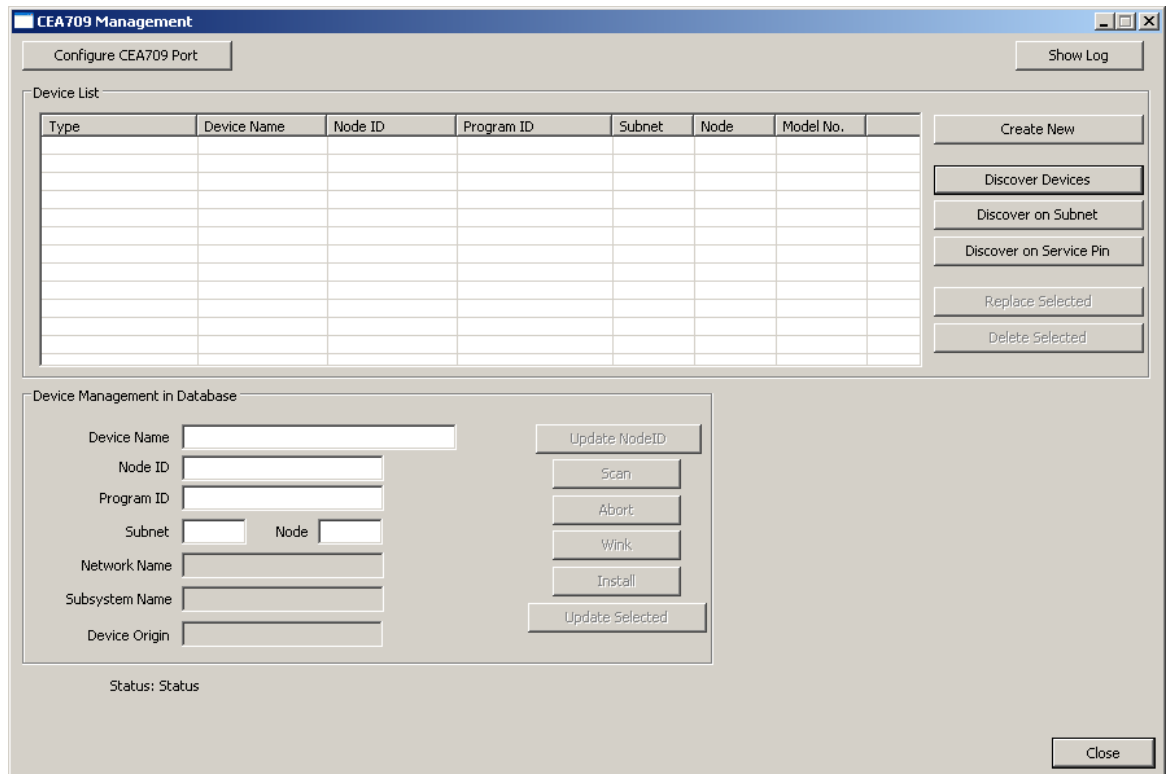

Figure 184: CEA-709 network scan dialog.
- Right-click on that folder and select **Scan CEA709/852 Network....** This opens the **CEA709 Management** dialog as shown in Figure 184.